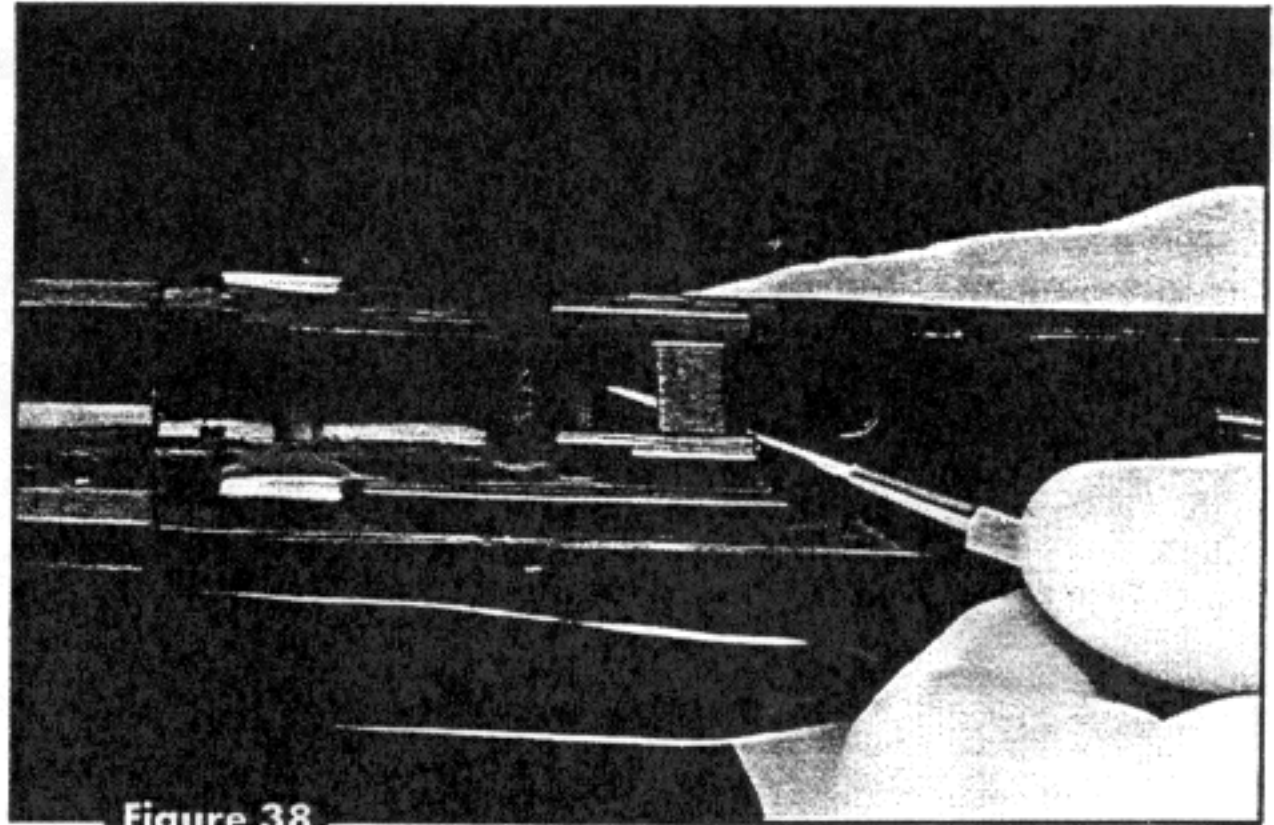

Figure 38
- Use a pin punch or a screwdriver to raise the locking block (Figure 38).